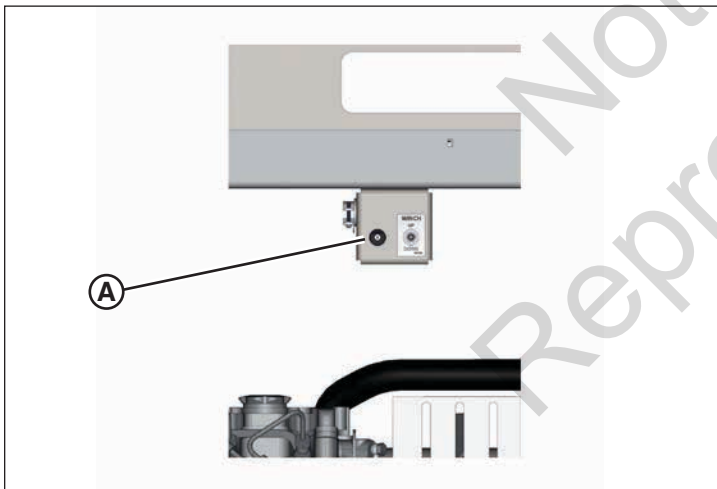

Figure 29
4. Press the light tower hydraulic lift switch (A, Figure 29) up to raise the light tower to the desired height.
3. Press the tower light hydraulic lift switch (A, Figure 29) down to lower the light tower to the desired height or to the full DOWN position.